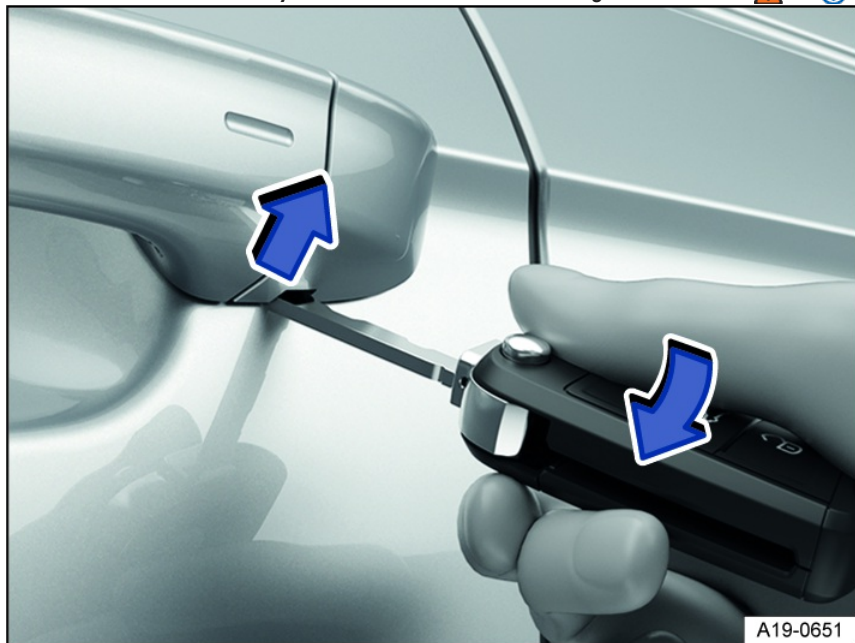

Fig. 55 Driver's door handle: prying off the cap.
3. Use the vehicle key to pry the cap off in the direction of the arrow *fig. 55*.